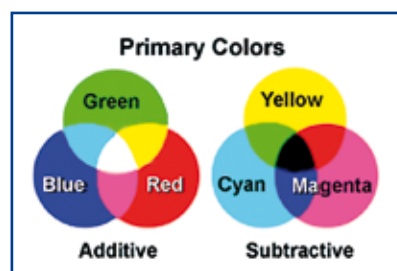

Fig. 4: Primary colours.
ceives an equal amount of all the three colours as white light. The addition of an equal amount of red and blue light yields magenta light, blue and green yields cyan, and green and red yields yellow (fig. 4). All the other colours are generated by stimulation of all three types of cone cells to a varying degree. The prac-
The overlap of the three primary additive colours red, green, and blue creates the colours cyan (C), yellow (Y), and magenta (M). These are called complementary or primary subtractive colours, because they are formed by subtraction of red, green, and blue from white. In this way, yellow light is observed, when blue light is removed from white light. Here, all the other colours can be produced by subtracting various amounts of cyan, yellow, and magenta from white. Subtraction of all three in equal amount generates black, i.e. the absence of light. White cannot be generated by the complementary colours (fig. 4). The CYM model and its more workable extension, the CYMK model, find their applications in the technology of optical components such as filters as well as for printers, for example.